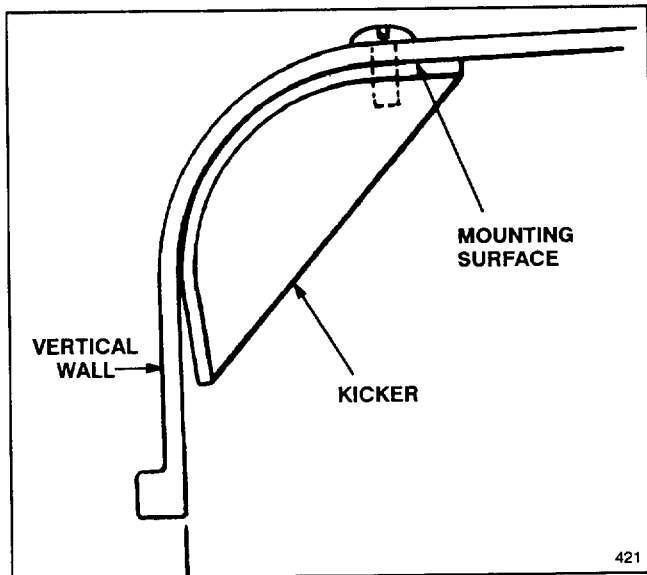

Figure 19
2. Inspect kicker fit to mower deck. If there are any gaps between kicker **mounting surface** and mower deck, tighten screws (Fig. 19).